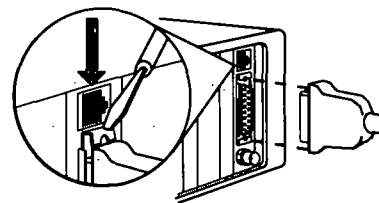

Figure 16. Attaching the AUI Drop Cable
1. Starting with the first computer to be connected, attach a drop-cable to the AUI port on the Ethernet adapter (Figure 16).